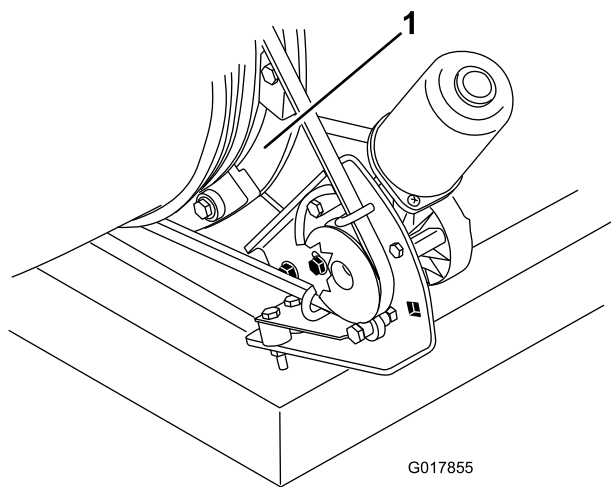

Figure 49
2. Remove any grass, dirt or debris buildup around and in between the nozzle guides (Figure 49).